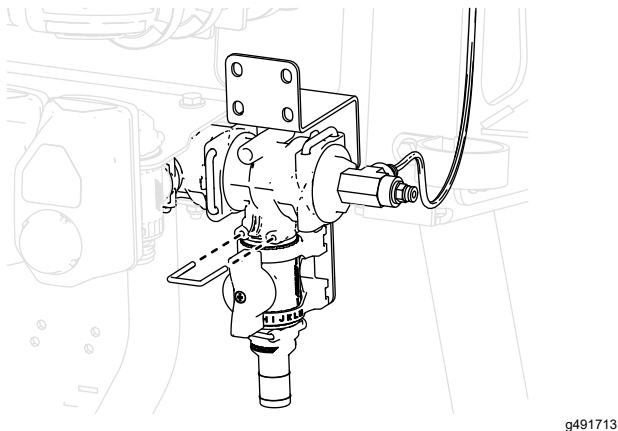

Figure 35
12. Connect the control valve assembly to the T-manifold at the end of the valve section using the included retainer (Figure 35).